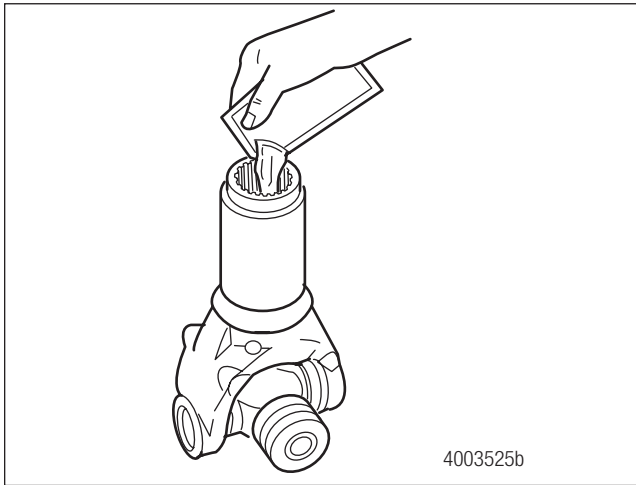

Figure 9.9
2. Use the grease packet supplied with the slip yoke to apply the entire amount of grease into the slip yoke. Figure 9.9.